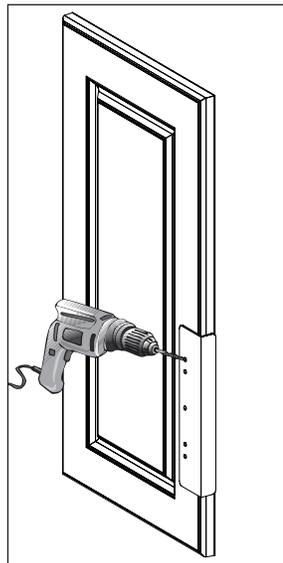
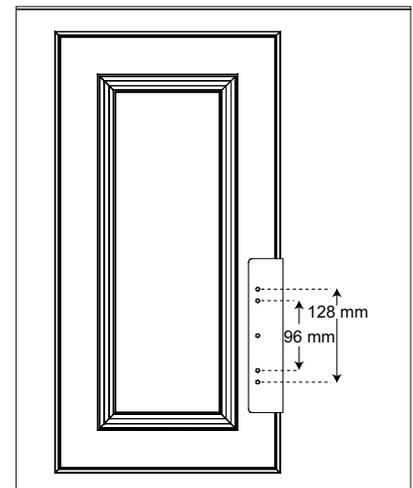

Fig. 1
Fig. 2
- To tighten cams, hold screw-driver at a **25-degree angle**. See Fig. 1 below.
One convenient template is provided for all door handles, and it works for all handle sizes! To use the template, simply position the template on door front to align with the bottom edge of inner door panel (raised or flat). (See Fig. 1 and Fig. 2.) Drill a 1/16" pilot hole through the corresponding handle hole(s) on front of door. Turn the door over and drill a 3/16" hole for handle at pilot location(s).
In closets with deep returns, allow a minimum of 10" from the return to the shelving tower for deep reach access. Design options for extra deep returns include using the space for front-to-back hanging (see Fig. 1). Place double-hang on both ends of the closet with a minimal area for long hang in the center.
Shallow closets with a minimum depth of 20" will work like regular closets. The only problem will be that the garment sleeves may rub against the doors. However, for unusually shallow clothing closets, you may wish to consider mounting the KV5 pull out rod (Fig. 2), which positions the clothing facing the closet opening. One pullout rod fits comfortably in each 24" section.